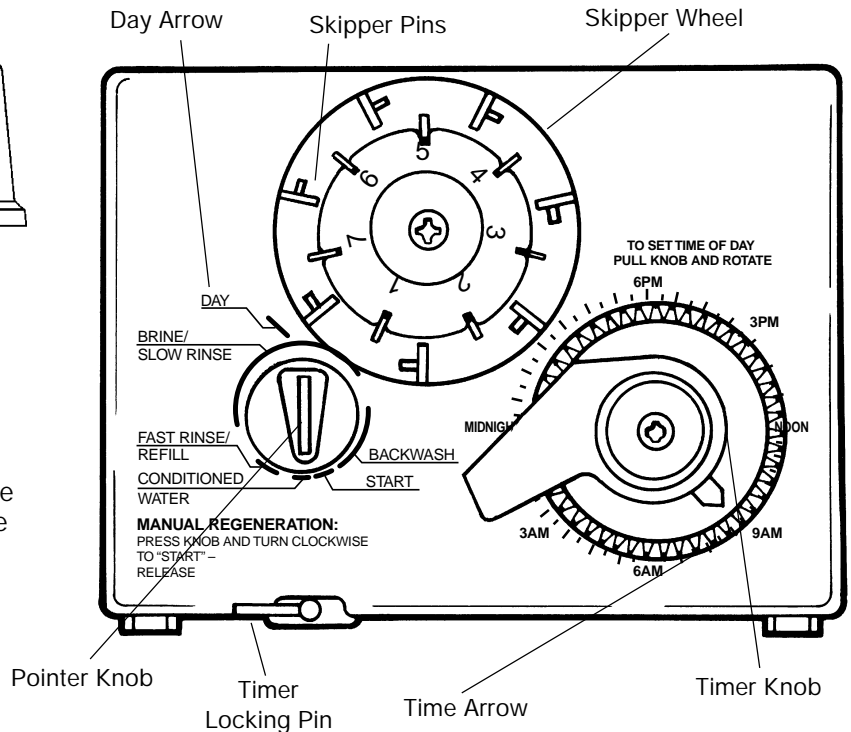

Figure 8
Note: The following steps will require turning the pointer knob, (Figure 8), to various positions. Insert a wide blade screwdriver into arrow slot in pointer knob and press in firmly. With knob held in, rotate **COUNTERCLOCKWISE** only until arrow or knob points to desired position. (Rotation is made much easier if you grasp the camshaft with your free hand and turn it at the same time.) Then permit knob to spring back out.
2. Insert screwdriver into slot in pointer knob, (Figure 8). Press in and rotate knob **COUNTERCLOCKWISE** until arrow points directly to the word **BACKWASH**.
1. Set days of regeneration on skipper wheel (Figure 8).
- Rotate in either direction until the timer arrow points to the actual time of day (Figure 8).
Note: The Timer Locking Pin should always be horizontal (Figure 8) during operation.
When abnormally high water usage exhausts your water conditioner's capacity ahead of schedule, an extra regeneration can be achieved by depressing the pointer knob with a wide blade screwdriver and turning **COUNTERCLOCKWISE** to **START** (Figure 8). It will take a few minutes for regeneration to start. Normal regeneration schedule will not be disrupted.
Electricity is used only to run the timer and to rotate the camshaft. All other functions are operated by water pressure. Therefore, in the event of a power outage, all the regeneration positions may be dialed manually by depressing the pointer knob and turning **COUNTERCLOCKWISE** (Figure 8). Manual time cycle: **BACK-WASH**-14 minutes; **BRINE/SLOW RINSE**- 52 minutes; **FAST RINSE/REFILL**-10 minutes. Do not exceed 10 minutes for the **FAST RINSE/REFILL** cycle as this will cause excessive salt usage during the next regeneration and possibly a salt residue in the softened water.